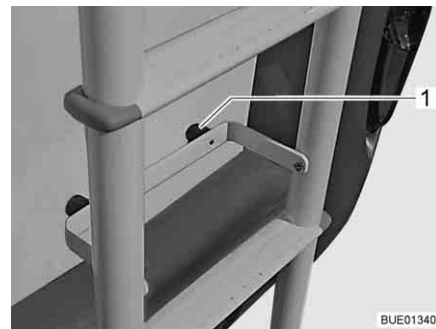

Fig. 3 Foldable ladder, ladder folded downwards
- Place guard rail with the rubber knobs (Fig. 3,1) up against the back panel of the vehicle.